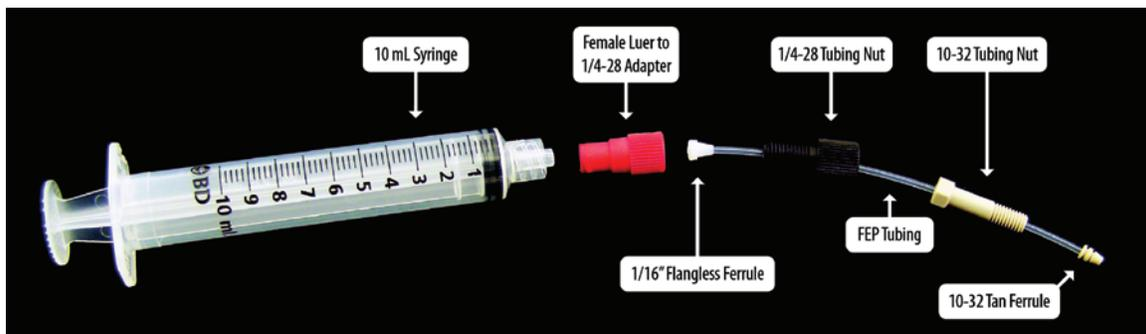

Figure 4. Sample selection 14-port valve flushing apparatus.
- Check the individual ports on the face of the valve to be sure they are not clogged. If they are use the 10 mL Syringe, Female Luer to 1/4-28 Adapter, 1/4-28 Black Tubing Nut, 10-32 Tan Tubing Nut, FEP tubing, a White Flangless Ferrule, and a Tan Ferrule as seen in **Figure 4**, to flush out the ports with dH₂O.